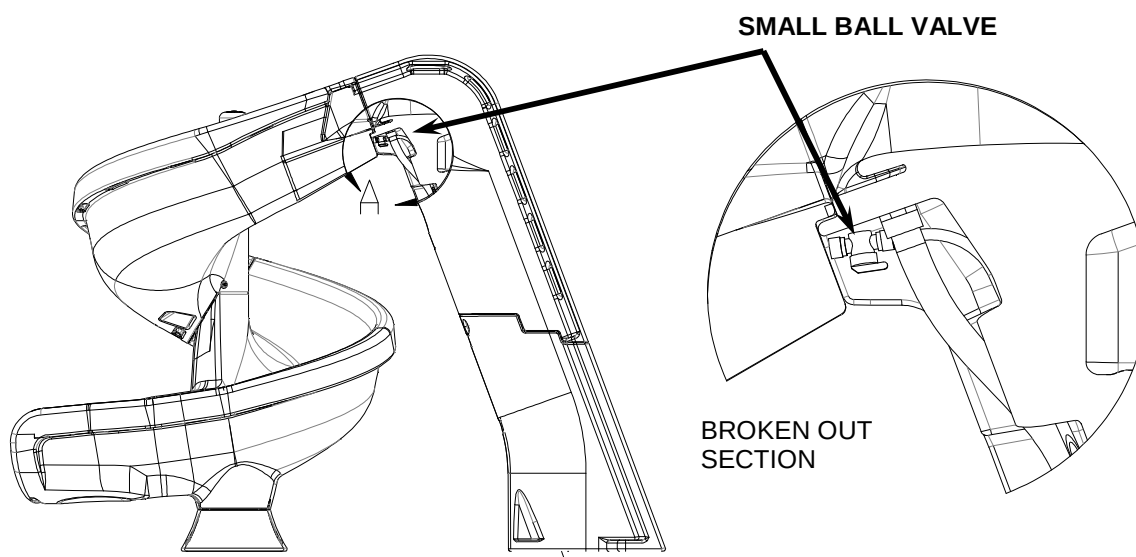

Fig. 13
17) Use plumbers tape (Teflon tape) when permanently assembling the 3/8" to 1/2" barbed 90° elbow fitting (22) to the 1" PVC Slip Reducer to 1/2" Threaded Female (21).
18) Glue the top end of the 1" PVC Flex Hose 16" long (23) into the fitting in the ladder.
19) Route the 1/2" Polypropylene Tubing (27) behind the 1" PVC Flex Hose 16" long (23) as shown in Figure 12 Detail C. Connect the 1/2" Polypropylene Tubing (27) to the small ball valve attached to the top runway section by pushing the 1/2" Polypropylene Tubing (27) into the end of the ball valve firmly as far as it will go. See Figure 13.
4. The helix™ can handle up to 20 gallons per minute. Water flow to the main water supply is to be regulated using the ball valve (16) near the center of the ladder. The fountain feature can be regulated via the small ball valve just under the top of the ladder. Figure 13 shows the location of the small ball valve.